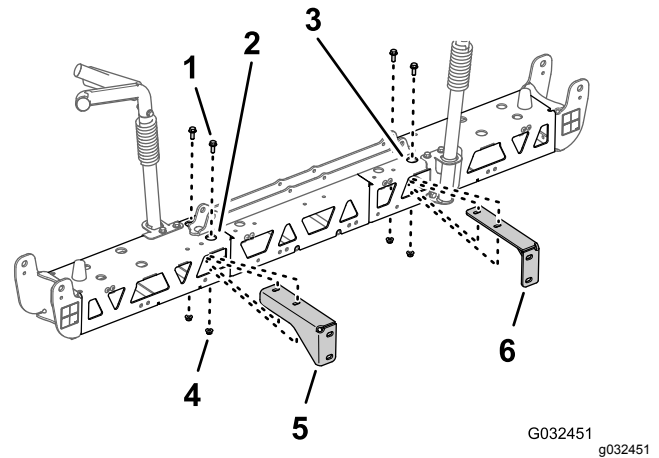

Figure 56
2. Align the holes in the right support bracket to the holes in the right truss frame as shown in Figure 56.
3. Assemble the right support bracket to the right truss frame (Figure 56) with the 2 flange-head bolts (3/8 x 1 inch) and 2 flange locknut (3/8 inch) that you removed in steps 2 and 3 of Removing the Support Brackets from the Center-Spray Section (page 27).
- Repeat steps 2 and 3 for the left support bracket at the left truss frame (Figure 56).